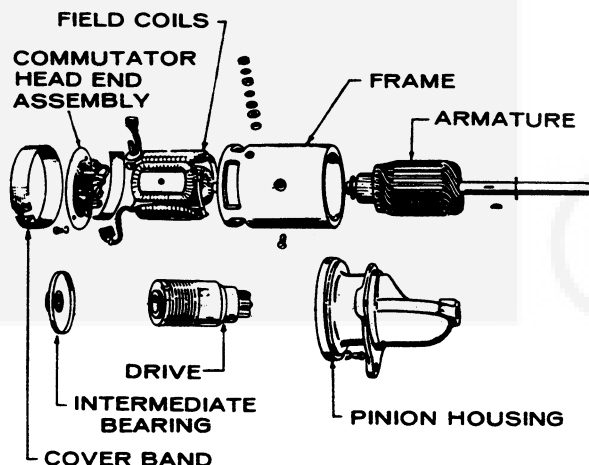

FIGURE 44. GEAR DRIVE STARTER
6. **Gear Drive Starter Only:** The entire assembly is mounted on the armature shaft. When disassembling the starter, pay particular attention to the various parts and their positioning in the starter assembly, Figure 44. If the gears of the pinion are damaged, replace the entire pinion. Inspect the screw shaft for rust and burrs.